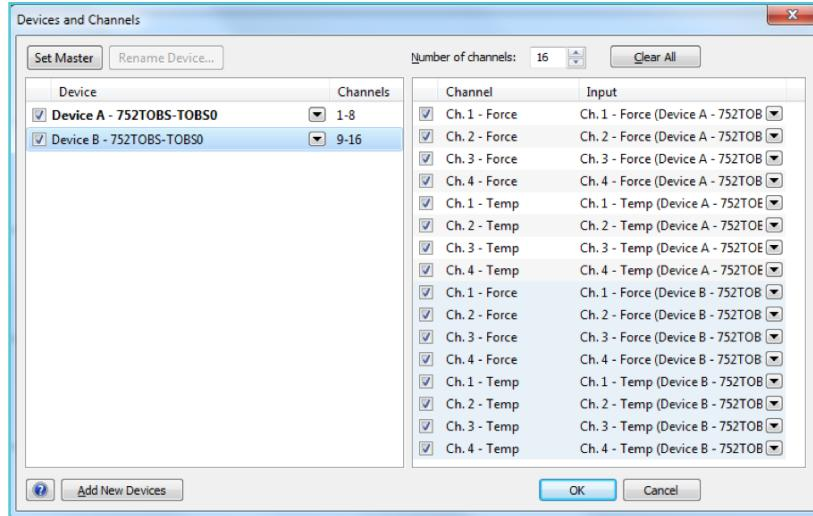

Figure 86: Select Device B – 750TOBS to add the 8 channels of Device B – 750TOBS to Labchart.
12. Select Device B – 750TOBS as shown in figure 86.